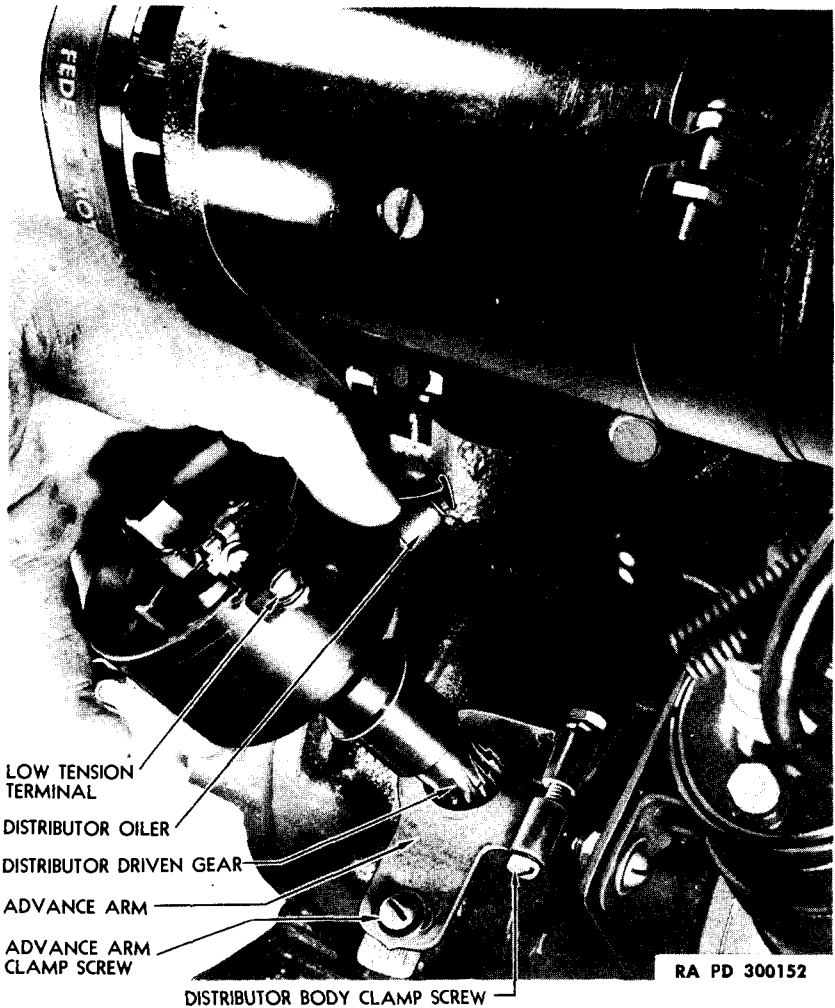

Figure 61—Installing Distributor Assembly
(3) **PRE-SET ADVANCE ARM.** Loosen advance arm clamp screw (fig. 61) and set advance arm pointer 1½ graduations to the left of center "0" mark. Tighten advance arm clamp screw to retain advance arm in position.
water pump housing. Have distributor body turned in same position as when removed (mark at right angles to engine center line, or low-tension terminal downward and to the right) (fig. 61), and place center of rotor strip about $\frac{1}{4}$ inch counterclockwise from No. 1 mark
just break contact, with rotor pointing to No. 1 mark on body. Exact time of point opening can be determined by using a very thin feeler of paper, or by watching the "break" indicated by a 6-volt test lamp temporarily connected across distributor points. Lamp lights when points separate or "break." Lock distributor body in No. 1 "break" position by tightening distributor body clamp screw (fig. 61). Install distributor cap, No. 1 spark plug, and spark plug high-tension leads.
(6) **INITIAL DISTRIBUTOR BODY SETTING (ALTERNATE METHOD).** The initial distributor body setting may be made as follows, using a neon timing light: Install distributor body (step (4) above) and tighten distributor body clamp screw just enough to hold distributor body from turning freely. Install distributor cap, No. 1 spark plug, and spark plug high-tension leads. Attach one lead of neon timing light to No. 1 spark plug terminal without removing regular spark plug high-tension lead, and ground other timing light lead. Hold timing light in position to illuminate timing hole in flywheel housing. Start engine and run at slow idle. Observe timing mark on flywheel as illuminated by neon light. Loosen distributor body clamp screw and slightly rotate distributor either way until light shows perfect alinement between flywheel mark and housing timing mark. Use mirror for clear view. Tighten distributor body clamp when correct mark alinement is obtained.
(7) **BASIC ADVANCE ARM SETTING.** After setting distributor body by either method (steps (5) or (6) above), loosen advance arm clamp screw (fig. 61) and set advance arm pointer back to center "0" mark. This has the effect of advancing the ignition timing six degrees ahead of piston top dead center—the correct basic ignition timing setting.
(2) **MARK ROTOR POSITION.** Inside distributor cap note position of No. 1 terminal (par. 84 a (2)) and mark position on distributor body.
(4) **REMOVE DISTRIBUTOR.** Loosen distributor body clamp screw (fig. 61) in distributor advance arm on top of water pump housing, and withdraw distributor body assembly. Do not crank or rotate engine while distributor is removed.